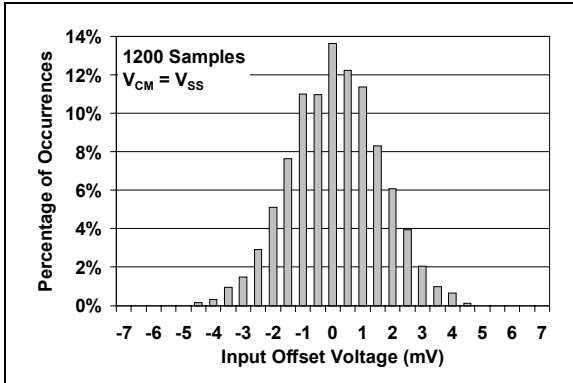

**FIGURE 1-3:** AC and DC Test circuit for the open-drain output comparators.
**Electrical Specifications:** Unless otherwise indicated,  $V_{DD} = +1.6V$  to  $+5.5V$ ,  $V_{SS} = GND$ ,  $T_A = 25^{\circ}C$ ,  $V_{IN}^+ = V_{DD}/2$ ,  $V_{IN}^- = V_{SS}$ ,  $R_{PU} = 2.74$  k $\Omega$  to  $V_{PU} = V_{DD}$  (Refer to Figure 1-3).
**Electrical Specifications:** Unless otherwise indicated,  $V_{DD} = +1.6V$  to  $+5.5V$ ,  $V_{SS} = GND$ ,  $T_A = 25^\circ C$ ,  $V_{IN+} = V_{DD}/2$ , Step = 200 mV, Overdrive = 100 mV,  $R_{PU} = 2.74 k\Omega$  to  $V_{PU} = V_{DD}$ , and  $C_L = 36 pF$  (Refer to Figure 1-2 and Figure 1-3).